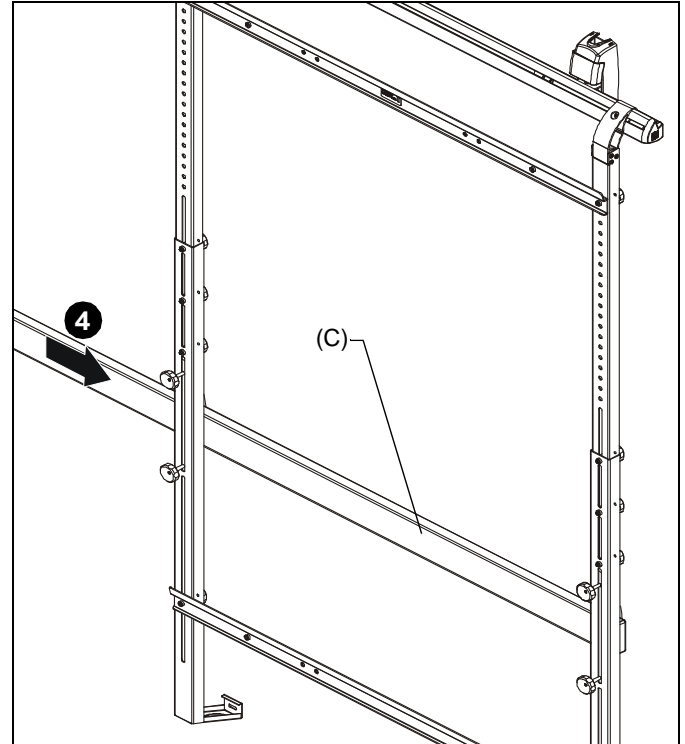

Figure 2
4. Slide rail (C) into interface uprights (A). (See Figure 2)